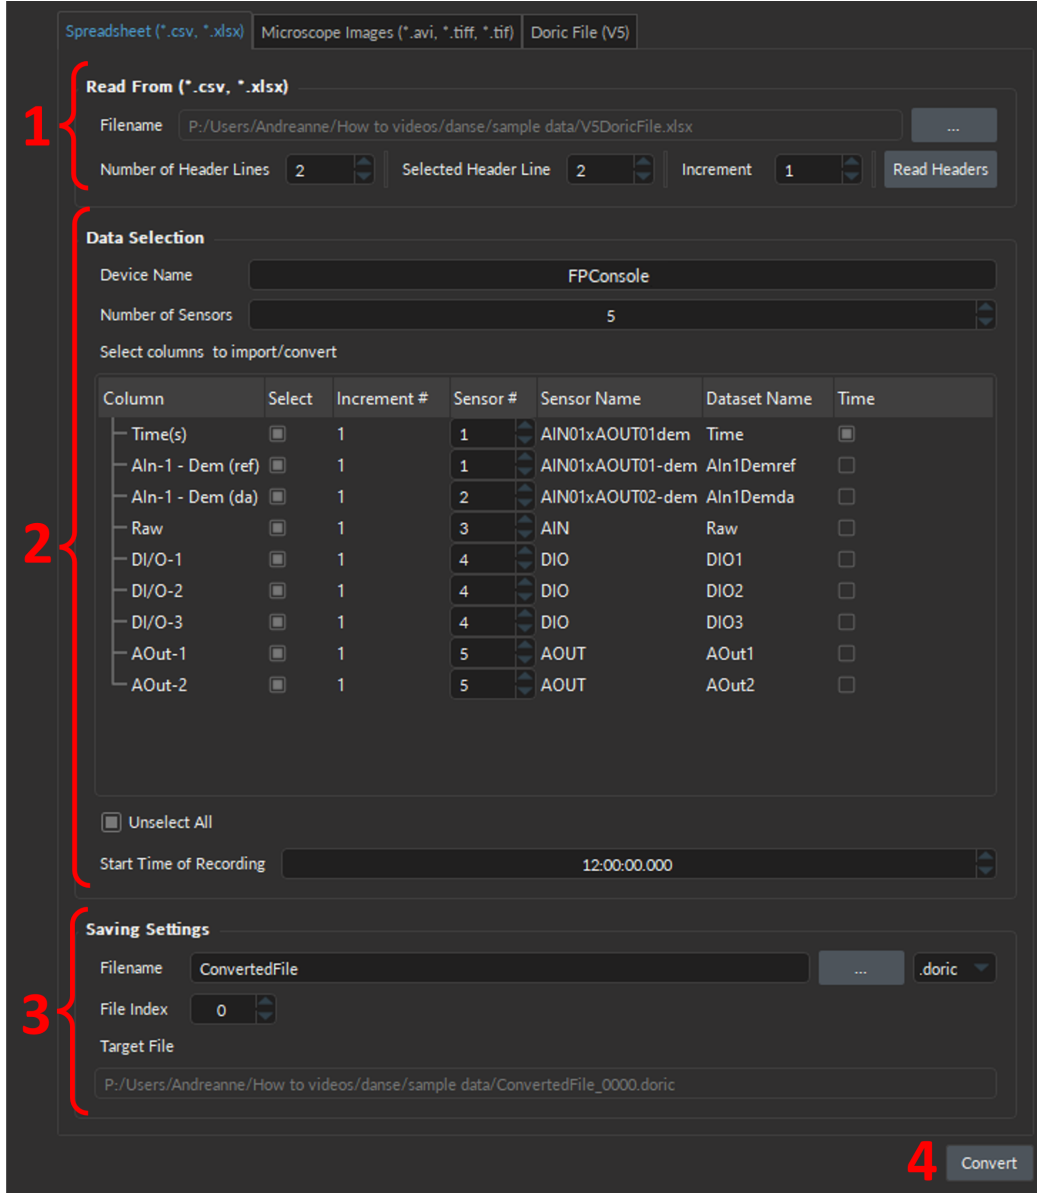
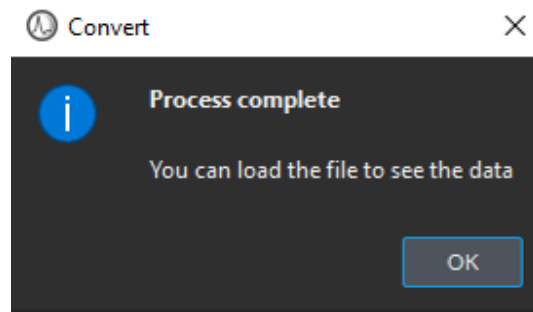

Figure 4.7: Convert Window, Spreadsheet Tab
Figure 4.10: Convert Spreadsheet, Process Complete Pop-up
1. The **Read From** section (Fig. 4.7, 1) is used to select the **Spreadsheet** that will be converted into a v6 .doric file.
- The **Selected Header Line** specifies which header line (if there are multiple) will be read into the **Data Selection** table and then used when converting the file. The value selected in the text-box represents the index number of the **Selected Header Line**. For instance, a **Selected Header Line** of **2** reads the bottom header row in Fig. 4.8, b. Such that the name of the header is displayed in the first column of the **Data Selection** table (Fig. 4.7, 2).
- The **Read Headers** button updates the **Data Selection** table (Fig. 4.7, 2) if the following parameters were modified: **Number of header lines**, **Selected Header Line**, **Increment**, and **Number of Sensors**.
2. The **Data Selection** section (Fig. 4.7, 2) contains the following parameters:
- The **Device Name** specifies the type of device used to collect the data. For instance, if a *Doric Fiber Photometry Console* was used, you could put *FPConsole* as the **Device Name**, like for the spreadsheet example (Fig. 4.7).
- The **Number of Sensors** corresponds to the maximum number of channel or sensor types. For instance, continuing with the FPConsole example (Fig. 4.7 & 4.8) Analog In, Analog Out, and Digital In/Out are three separate types of channels. In addition, demodulated signals (when using the Lock-In mode) count as separate sensors. Thus, we would have a total of 5 sensors for this data file.
3. The **Saving Settings** section (Fig. 4.7, 3) specifies:
4. The **Convert** button (Fig. 4.7, 4) initiates the conversion process. A **Process Complete** pop-up window (Fig. 4.10) will be displayed if the conversion was successful. To view the file in the **File Manager** you must first load it (See Section 4.2).